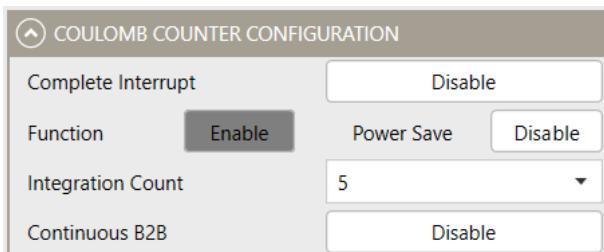

Figure 17: Coulomb Counting Configuration
12. Figure 17 shows how to configure Coulomb counting.